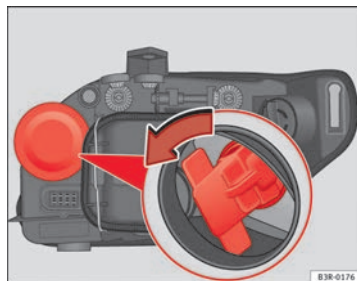

Fig. 220 Turn signal
- Remove the bulb holder by pulling on the grip and turning it anticlockwise ⇒ Fig. 220.